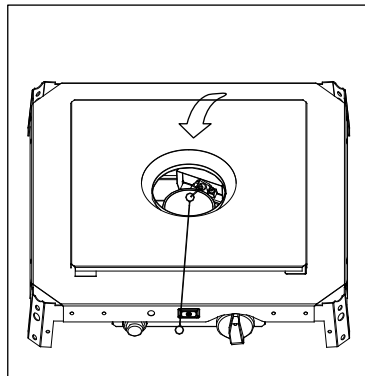

Figure 4
- As you are depressing the control knob, place long stem lighter through the glass tube to light the pilot (*Figure 4*).